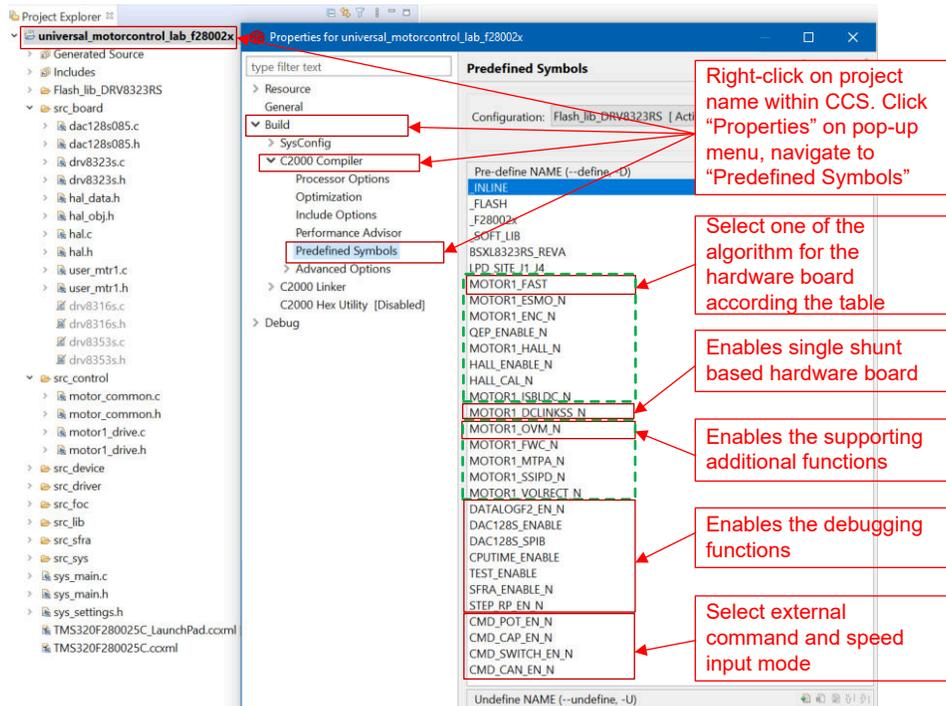

Figure 3-19. Select the Desired Pre-define Symbols in Project Properties
3. Configure the project to select the supporting functions in the project by right-clicking on the imported project name, and then click the "Properties" command to set the pre-define symbols for the project as shown in Figure 3-19.
- c. Select the right supporting functions by enabling the pre-define symbol/s as shown in Figure 3-19.
In order to enable the datalog functionality, the predefine symbol DATALOGF2\_EN must be added in the project properties as shown in Figure 3-19.